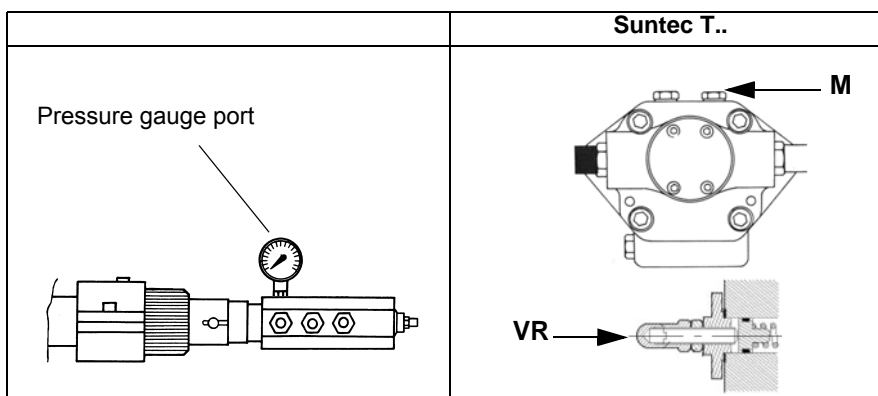

Fig. 20
- 3 bleed the air from the **M** pressure gauge port (Fig. 20) by loosening the cap without removing it, then release the contactor.
- 4 Only if necessary, adjust the supply pressure as follows (see related paragraph); insert a pressure gauge into the port shown on Fig. 20 and act on the pump adjusting screw **VR** (see Fig. 20) as to get the nozzle pressure at 25bar (according to the nozzle model provided- see page 40).